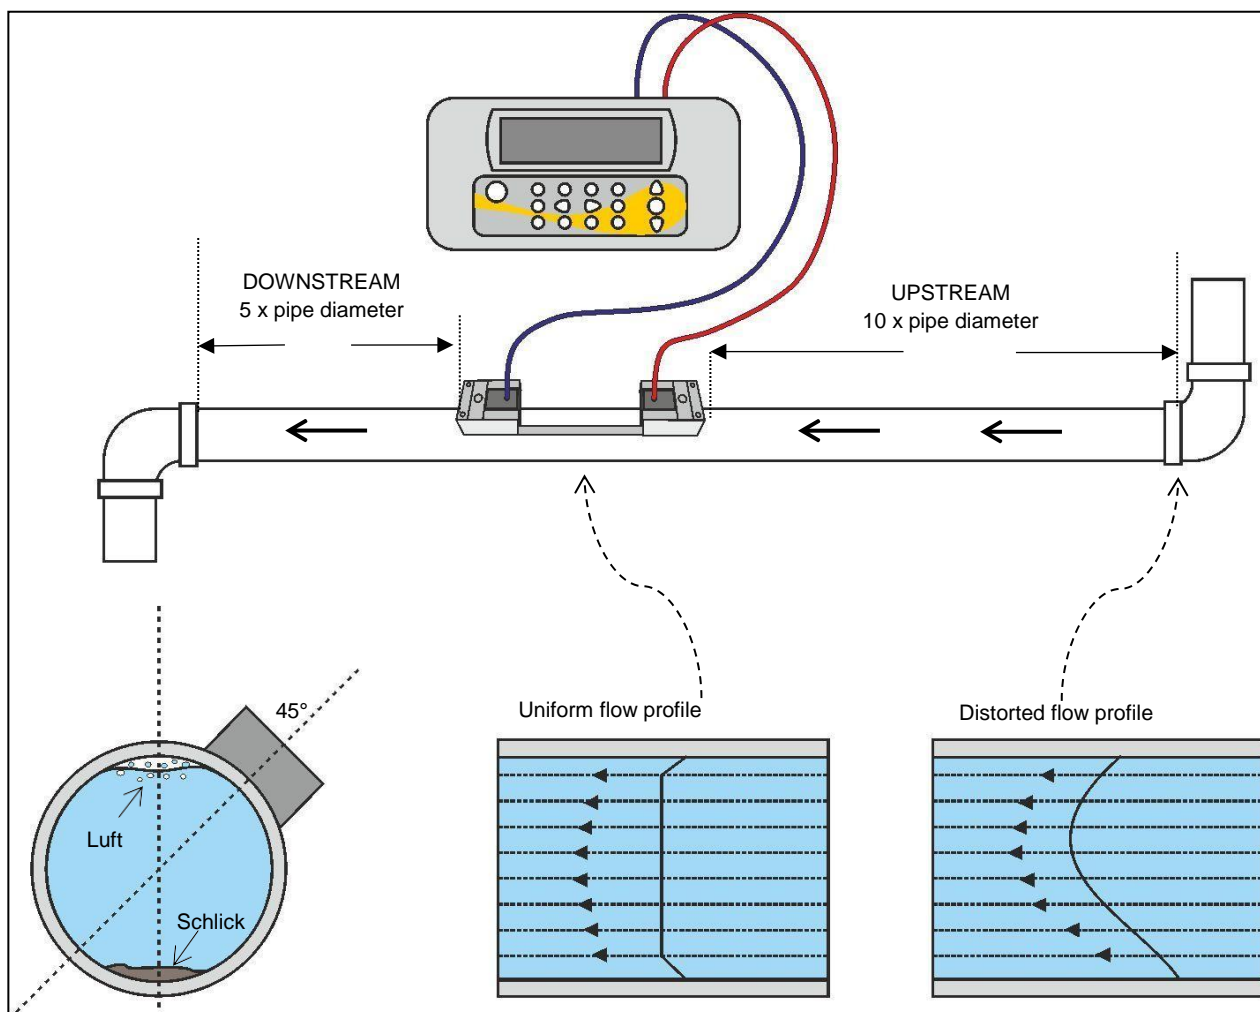

Figure 4.1: Location of unit
1. Before you attach the transducers you should first ensure that the proposed location satisfies the distance requirements shown in Figure 4.1 otherwise the resulting accuracy of the flow readings may be affected.